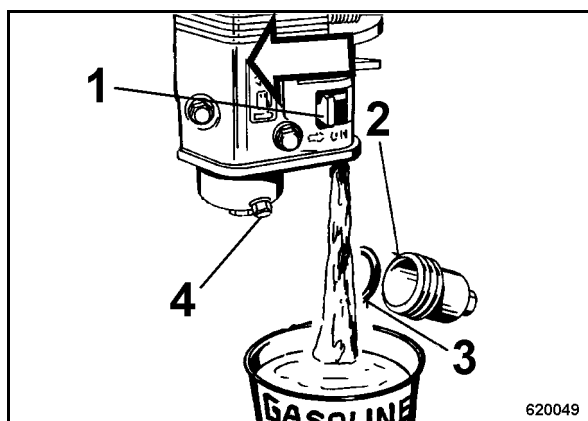

Fig. 62
- Open the fuel tap (1) (Fig. 62) in direction of arrow.
- Unscrew the fuel sludge filter (2), empty it and reassemble it leak tight with a new seal ring (3).
- Unscrew the carburettor drain screw (4), let all fuel run out of the carburettor and turn the screw tightly back in again.